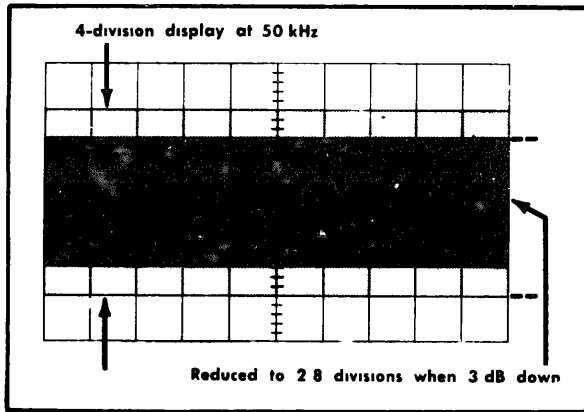

Fig 6-4. Typical CRT display when checking frequency response
- d. Increase the frequency until there is exactly 2.8 cm of deflectron. See Fig. 6-4.